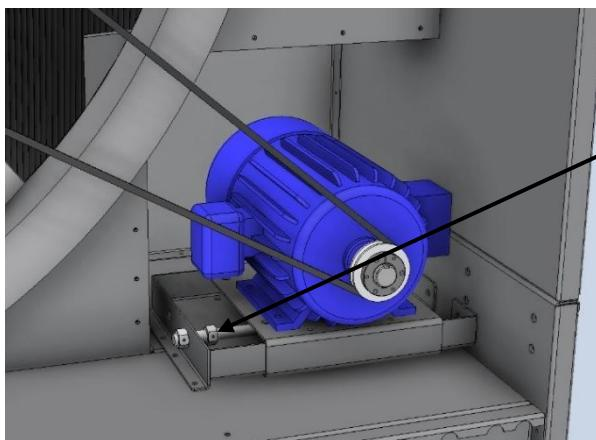

Figure 6. Adjustable Motor Base
- b. For 7X units, loosen the lock nut first and then adjust the motor base using adjustment screw **Figure 6**.